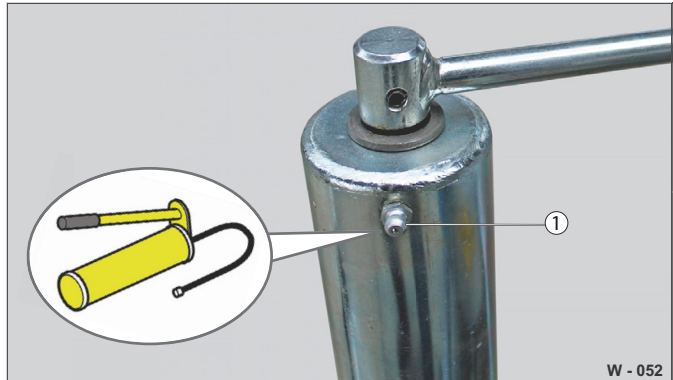

Fig. 41 Lubricating
- If required, close the grease nipple (Fig. 41 /1) with a cap.